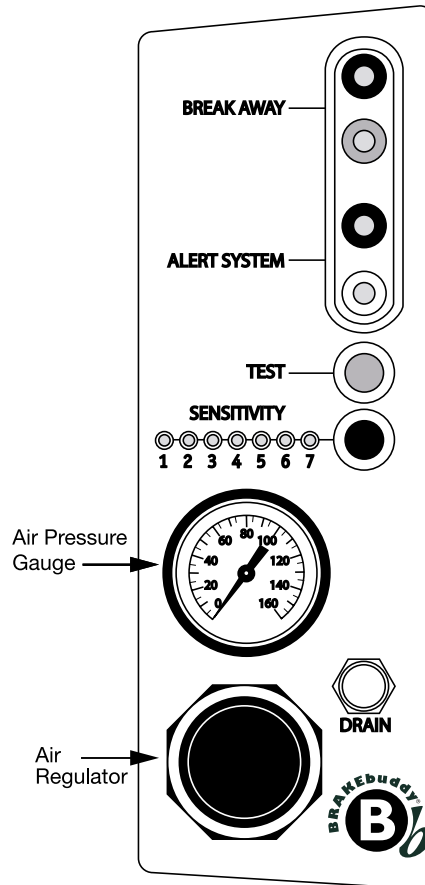

FIGURE 10
1. **Adjust the air regulator knob to match the weight of your towed vehicle** (Figure 10). The braking pressure, or how hard your towed vehicle will brake in tow, is adjusted by the air regulator on top of the *BrakeBuddy*. To find the correct pressure setting for your vehicle, please refer to the **Vehicle Weight Formula Chart** below. To adjust the setting, pull up on the air regulator knob, turn knob until the pressure gauge reads the correct setting specified by the Vehicle Weight Formula Chart, and push the knob down to lock it in place.
2. **Adjust the Sensitivity Button.** The "Sensitivity" button on the top of the *BrakeBuddy* determines how hard you must apply the brakes in the motorhome before the *BrakeBuddy* will engage the brakes in your towed vehicle. The sensitivity of the *BrakeBuddy* is adjusted by holding down the Sensitivity button (Figure 10). The more lights that are illuminated, the easier the *BrakeBuddy* will activate. Each time the *BrakeBuddy* is installed, the sensitivity setting defaults to the middle sensitivity setting (four lights will be illuminated).